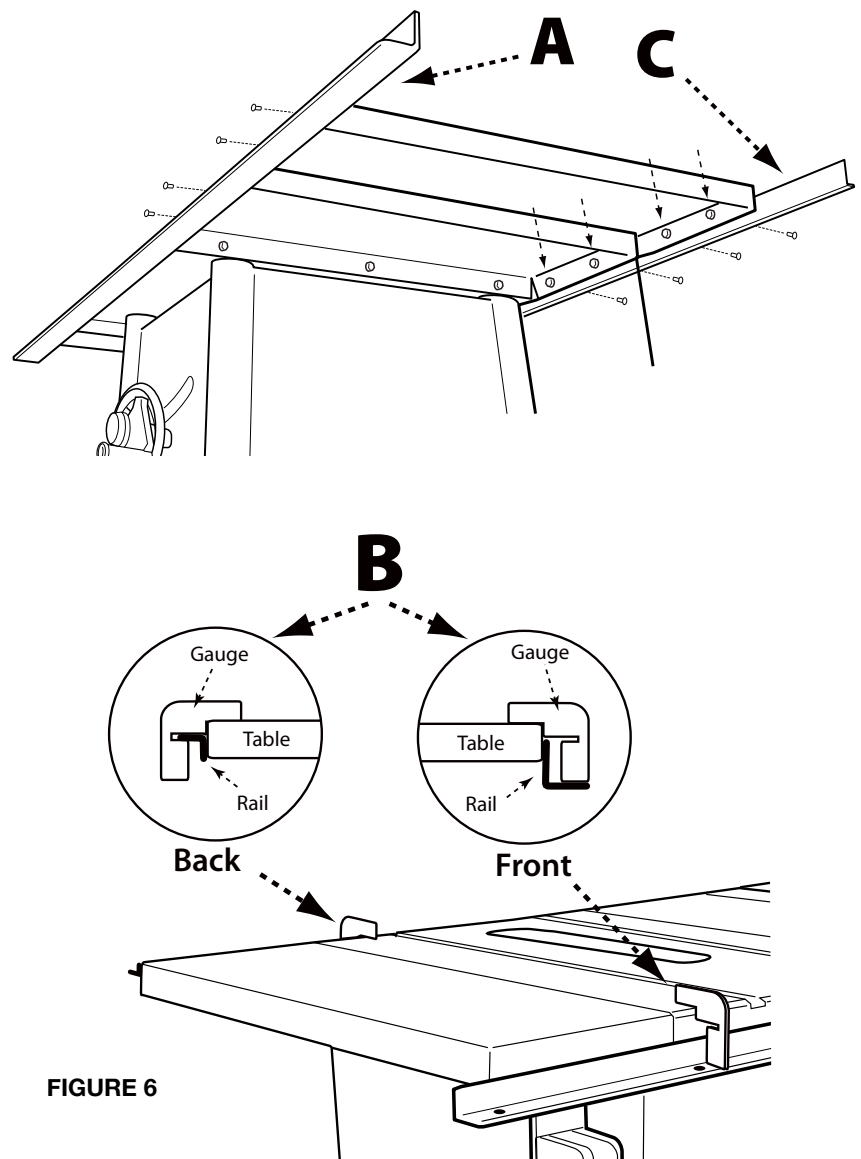

FIGURE 6
1. Attach the front rail (A) (2" X 2" X 57" for the 30" rip capacity models), (2" X 2" X 79" for the 52" rip capacity models), to the saw table and extension wings using 5/16-18 x 1 1/8 inch flat head screws. Align the holes in the rail with the holes in the table and extension wings.
2. Use supplied rail alignment gage (B) to ensure the rail is the proper distance from the top of the table at each side of the cast iron table. (fig 6) Then use the alignment gage to set the same proper distance for the extension wings.
5. Use supplied rail alignment gage (B) to ensure the rail is the proper distance from the top of the table at each side of the cast iron table. (fig 6) Then use the alignment gage to set the same proper distance for the extension wings.